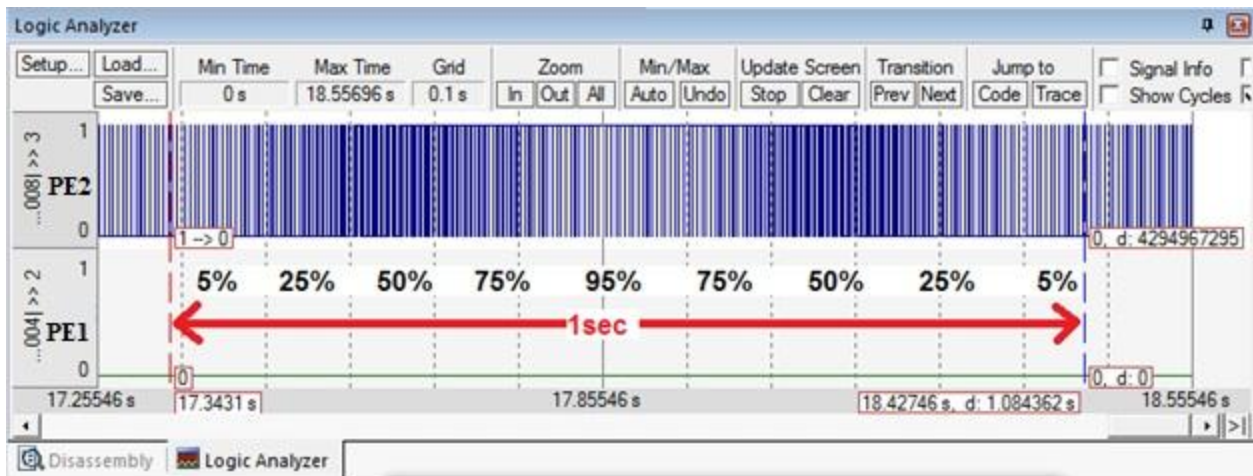

Figure 3.10. Breathing. Pins here are PE1 and PE2, but your **Change** and **LED** pins will be specified when you enter your two EIDs and run the system.
5. Screenshot of Keil logic analyzer showing your breathing, like Figure 3.10